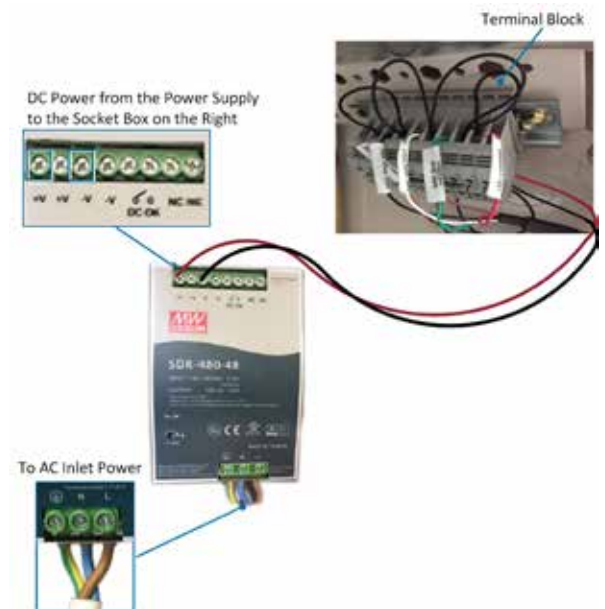

Figure 13. Overview of Recommended SDR Connections Alarms Connector and Cabinet Alarms Block
Step 8: Connect 2 A gauge double insulation wire to power supply (leads to AC inlet power). See Figure 13.